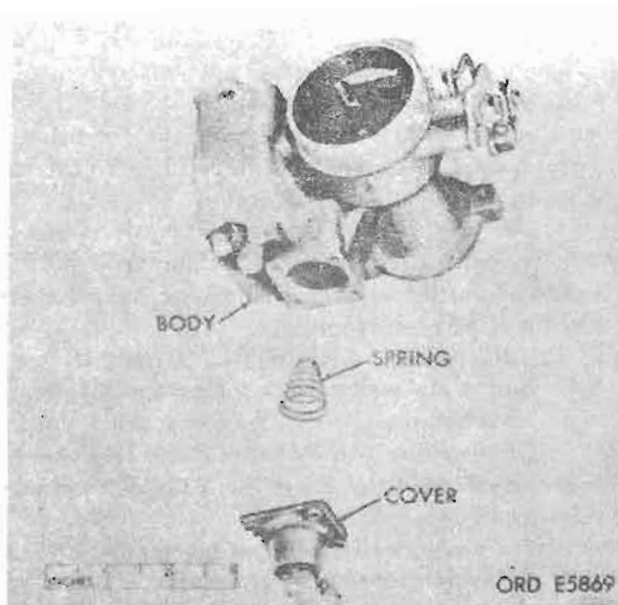

Figure 5-19. Pump diaphragm cover and return spring.
(1) Remove four mounting screws from pump diaphragm cover assembly.
(2) Remove accelerating pump cover diaphragm assembly and pump return spring from carburetor (fig. 5-19).